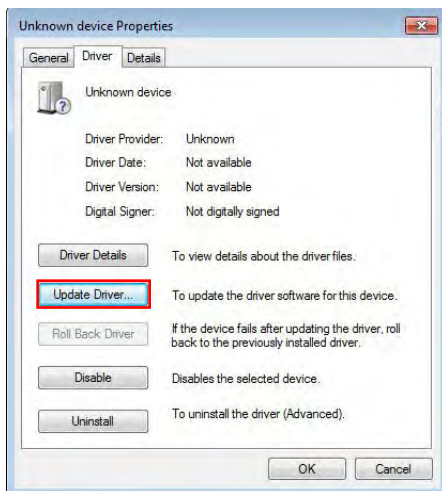

FIG. 187 Unknown Device Properties window (Driver tab)
- In the Driver tab, select **Update Driver** (FIG. 187):